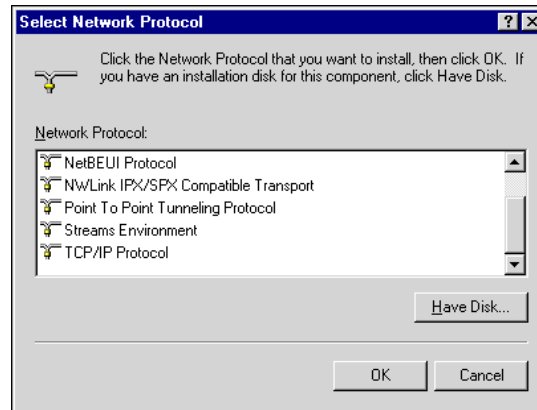

Figure B-2: Select Network Protocol dialog
- 6 If TCP/IP is not on the list of installed protocols, click **Add** to open the Select Network Protocol dialog (Figure B-2).